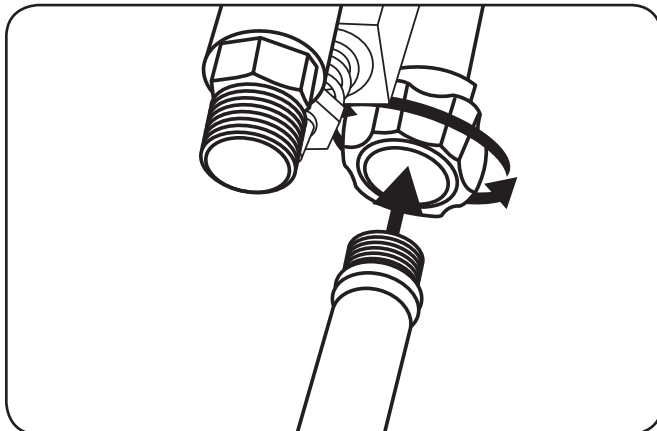

Figure 5-2
5. Connect water source to pump inlet. See Figure 5-2.